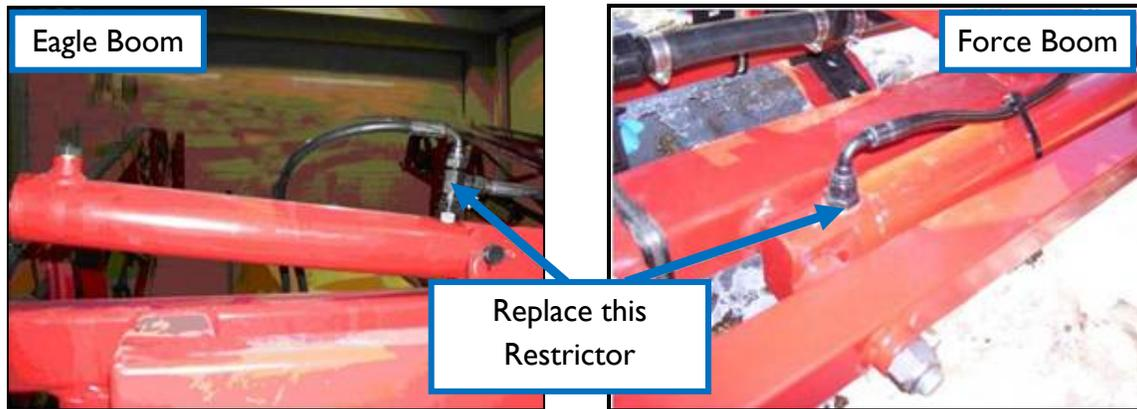

Figure 35: Restrictor to be Replaced on the Tilt Cylinders
10. Remove the Hardi hoses from the “raise” line (the “B” line) of the cylinder and remove the restricted straight BSPP fittings. (**Figure 35**)
12. Remove the Hardi hoses from the “lower” line (the “A” line) of the cylinder and remove the restricted straight fittings. (**Figure 35**)